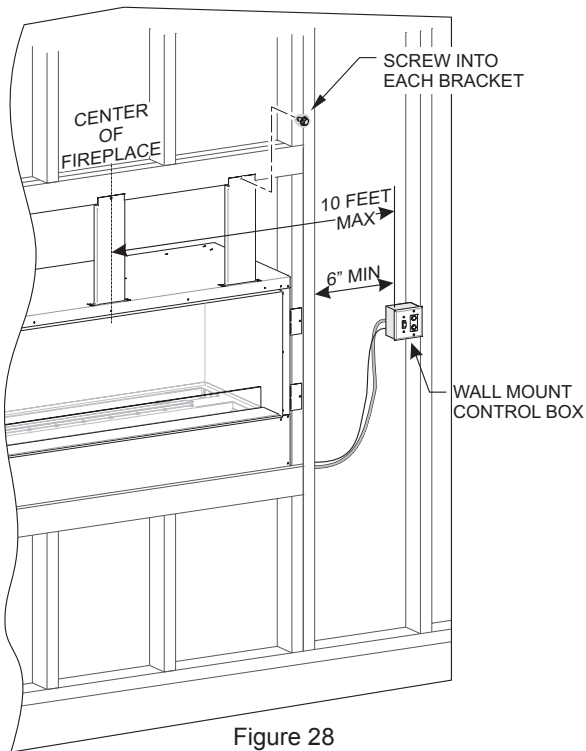

Figure 28
3. Secure three standoff brackets with drywall screws to the framed opening above the fireplace as shown in Figure 28. Notice: The drywall screws are located in the instruction envelope packet. Secure fireplace on left and right through side nailing flanges.
7. Install the wall-mounted control box within 10 feet of the center of the fireplace. (See Figure 28)